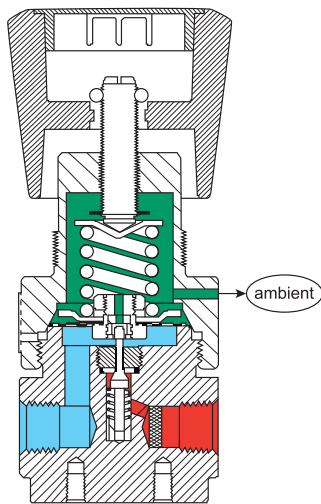

Figure 40
- Venting (Figure 40) feature enables complete relieving of the downstream pressure in dead-ended systems when the handknob is turned in the decrease direction (counterclockwise). The regulator incorporates a second valve to vent the downstream pressure through the bonnet in the standard venting model